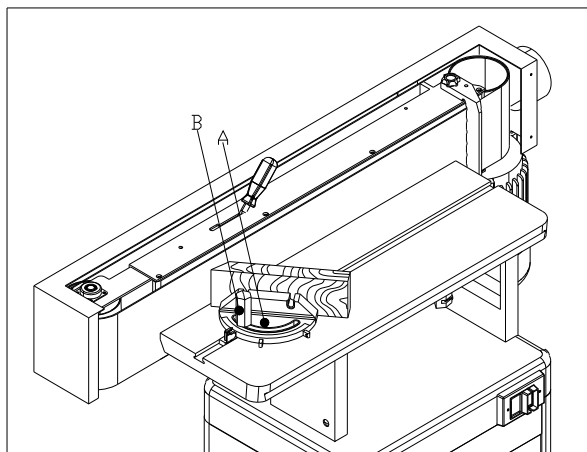

Fig: 5
- 1.MITER GAUGE (A) CAN BE ADJUSTED 45° — 90° AND CLAMPED BY HEX. HANDLE (B), SEE FIG.5